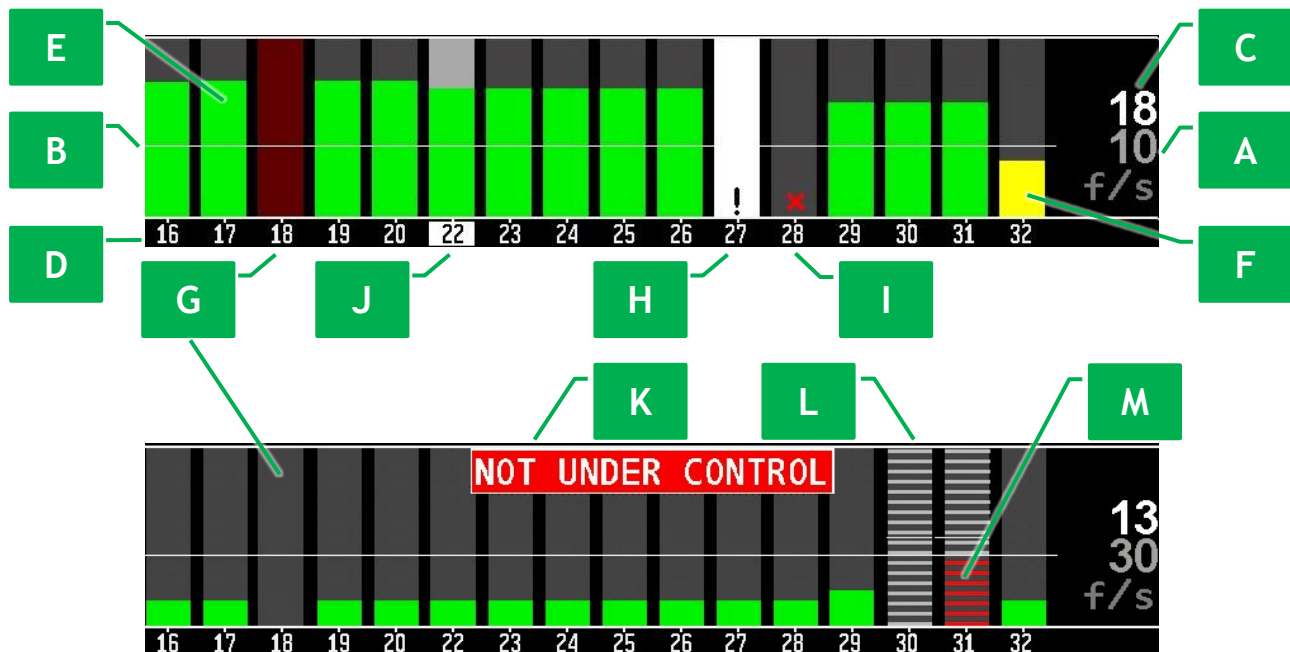

Figure 28 Diagram of seed sensors in the “Flow” control mode
The “flow” control mode can be used for any group of sectional sensors. For this control mode, the diagram consists of the following elements (see Figure 28):
- in green (normal state, see Figure 28, p.[E]), when the actual rate of application of the product is greater than the specified minimum permissible level of actual rate;
- in yellow (alarm state, see Figure 28, p.[F]), when the actual rate of application of the product is less than the specified minimum permissible level of actual rate.